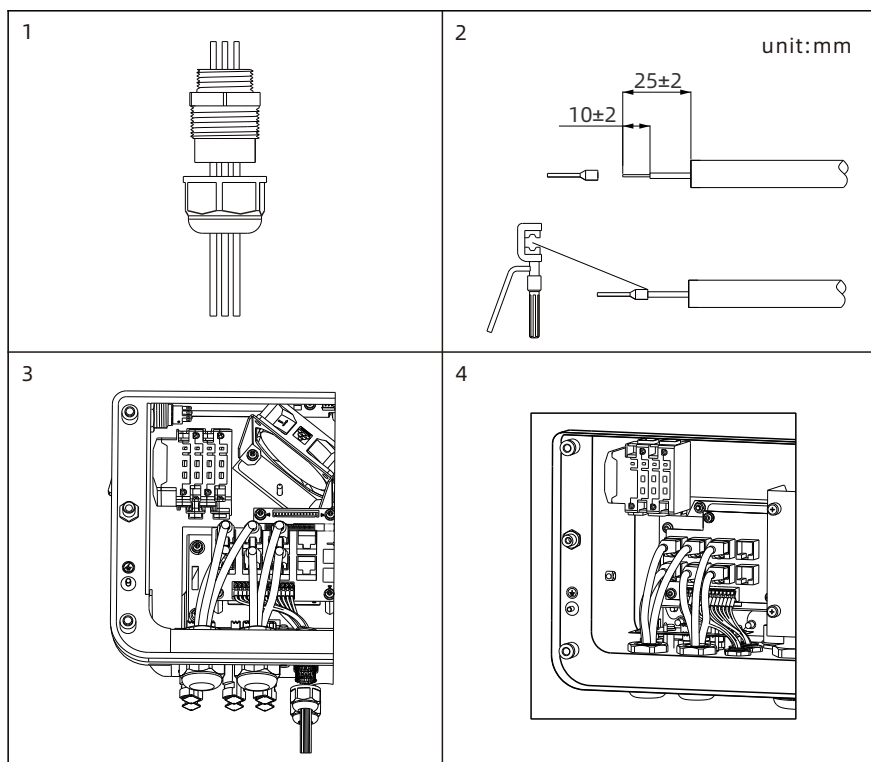

Fig 6.18 Signal terminal connections
- 3) Pass the cable through the PG header and snap it into the corresponding terminal holes of the veneer as shown in Fig 6.18.